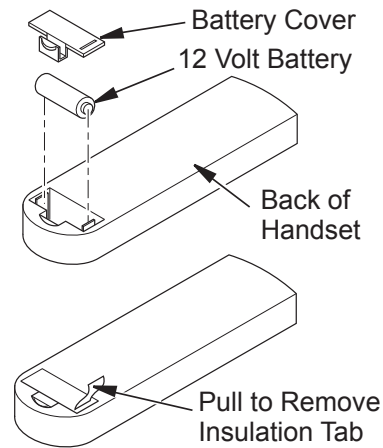

Figure 15 - Installing Battery into Back of Handset
3. Activate remote handset battery by removing insulating tab on back of handset (see Figure 15). Battery is included pre-installed.